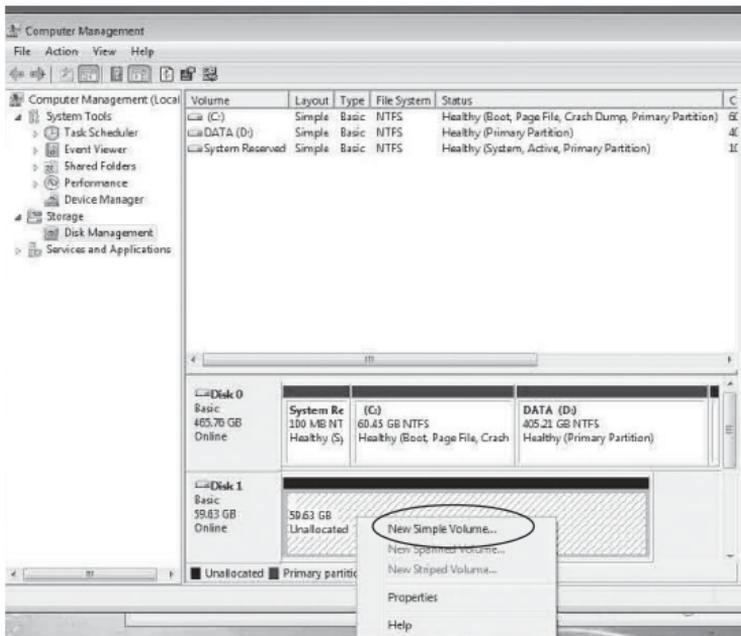

Figure 5
4. Right click on the **Unallocated** box and select **New Simple Volume** or **New Partition**, see **Figure 5** in the next page.